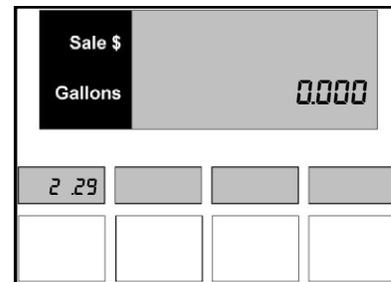

Figure 29.2 – Reset Volume Total
2. To read the volume totals for the next meter as shown in *Figure 29.2*, press the **Enter** button to cycle through any remaining meters.